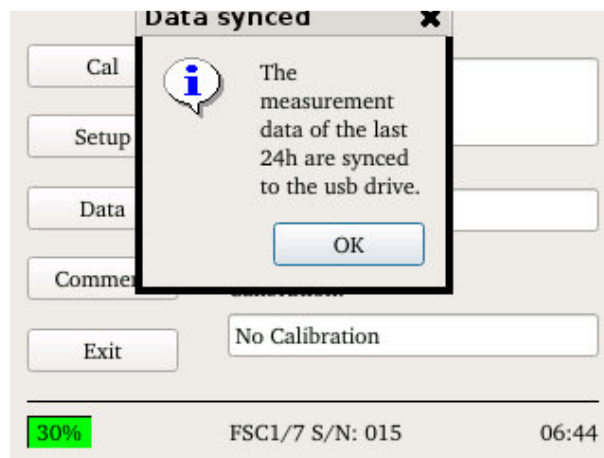

Figure 33: Save finished
- When the save action is finished then will a window opens according to Figure 33.